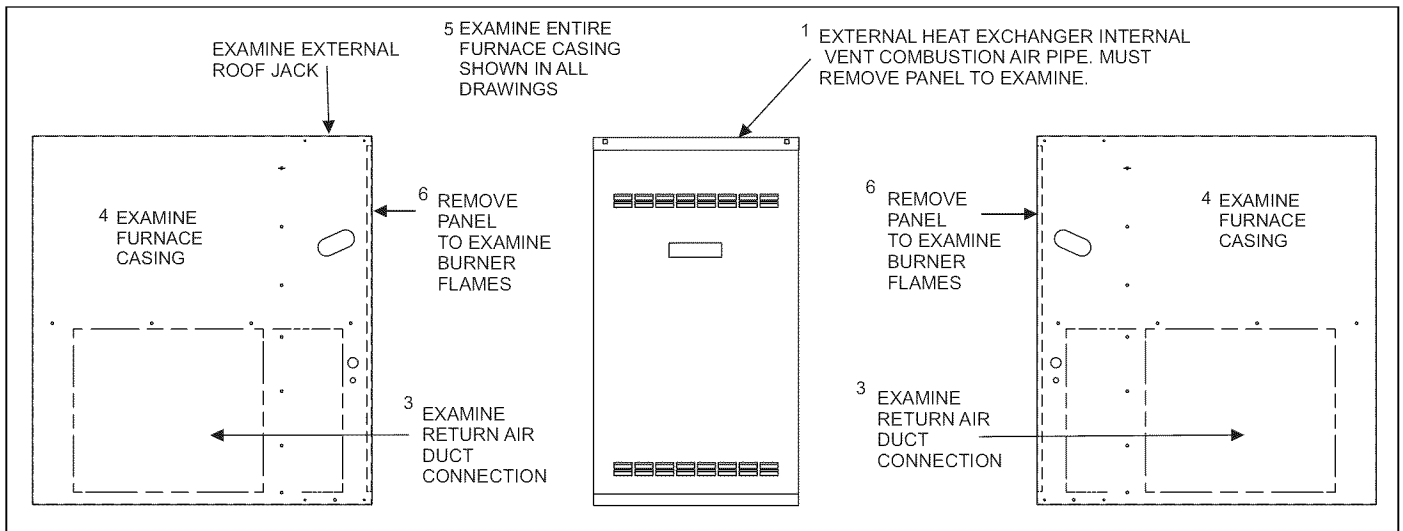

FIGURE 3: Furnace Examination Checkpoints - Upflow
7. Examine the furnace as outlined above in steps 1 - 6 before each heating season. Use Figure 3 for visual reference.